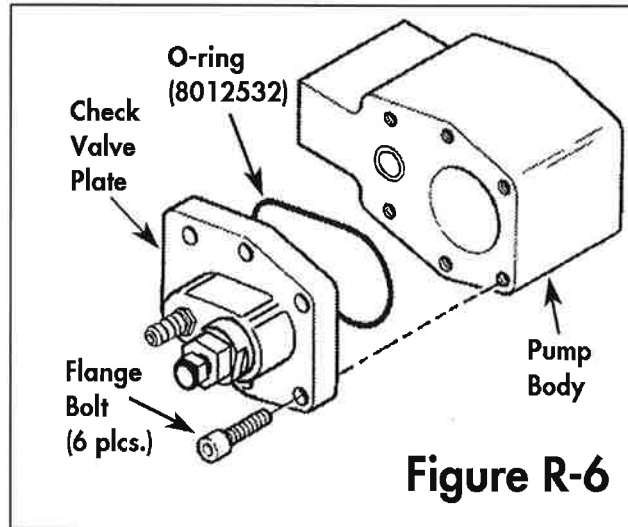

Figure R-6
5. Lubricate a new o-ring (8012532) with silicon grease and install it into its groove in the pump side of the check valve plate. Taking care that the intake check valve components do not fall out of their bore, bring the check valve plate and the pump body together, align them, and install the six sockethead flange bolts to hold the assembly together. Tighten these fasteners snugly. (If a torque wrench is available, tighten to approximately 120–140 in.-lbs.) See **Figure R-6**.